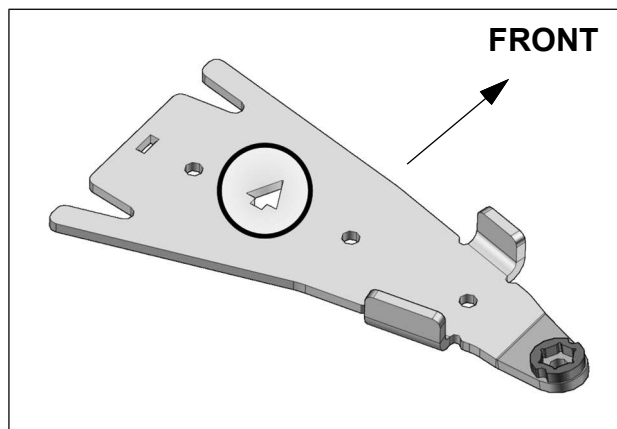

Fig. 1
- For most vehicles, directional arrows have been cut out of some components in the anchor bracket kits. Make sure the arrows point toward the front of the vehicle when installing the brackets. See Fig. 1